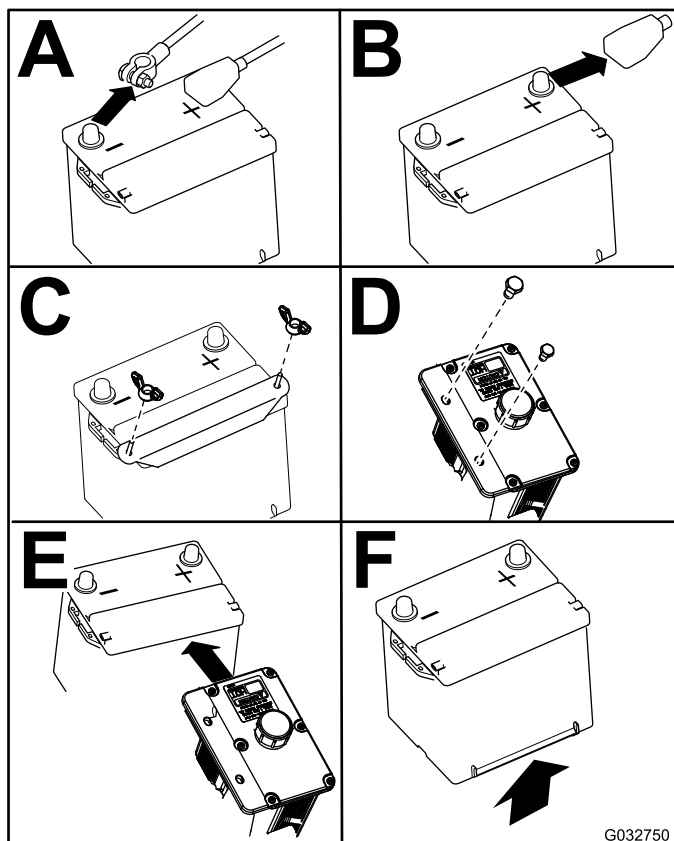

Figure 53
4. Remove the battery as shown in Figure 53.